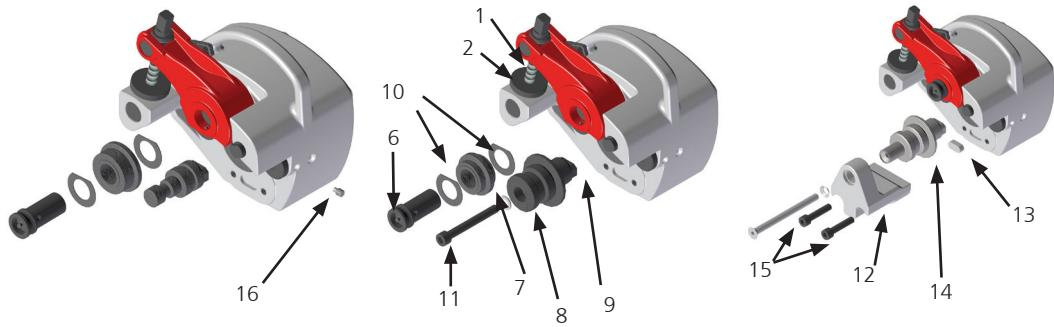

Figure 4
- On a workbench or on the floor, rotate the guide screw anti-clockwise to "lift" the upper roller (see figure 4, n.7) completely from the lathe screw (see figure 4, n.8).
- Loosen the fixing stud from the roller slide (see figure 4, n.9) and remove the roller shaft (see figure 4, n.6).
- Remove the upper roller and the adjusting washers (see figure 4, n.10) from the roller slide.
- Loosen the screw from the lathe screw (see figure 4, n.11).
- If the new lathe screw is for 1 or 1 1/4 - 1 1/2 inch tubes, secure it by tightening the screw (see figure 4, n.16).
- If the new lathe screw is for 4 to 6 inch Sch 40 tubes, or 8 to 12 inch Sch 10 tubes (see figure 4, n.14), place the lathe screw support (see figure 4, n.12) and secure it by using the pin as a guide (see figure 4, n.13) and tightening the screws (see figure 4, n.15).